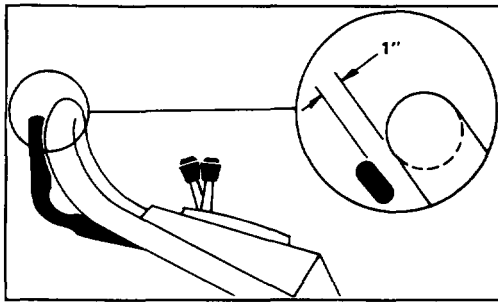

Figure 23
3. CHECK ADJUSTMENT—Slowly pull mower backwards while control bar is gradually moved toward handle. Adjustment is correct when rear wheels stop turning and control bar is about 1 inch from handle (Fig. 23).